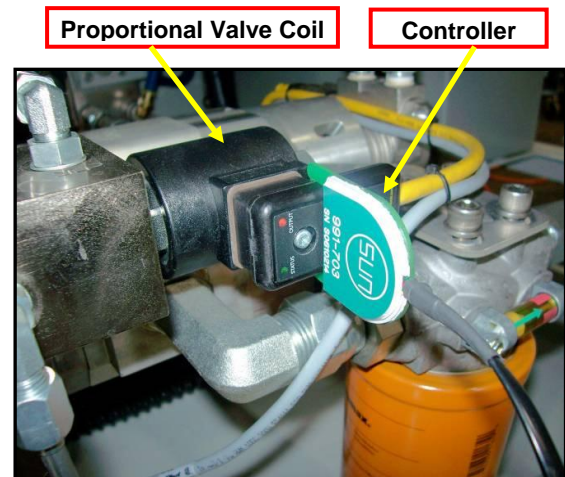

FIGURE 1
1. Remove the 2 Proportional Valve Coils. This will ensure there is no current affecting the proportional valve. **See Figure 1.**
9. Plug the controller into the proportional valve as shown. **See Figure 1.**